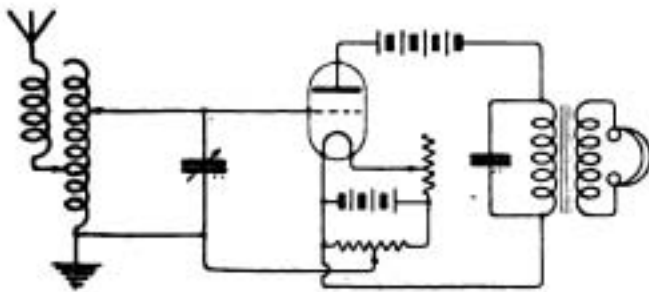

Fig. 2.
A.E.H. (Portsmouth).—(1) See Fig. 2.
(2) No; it would give very poor results indeed.